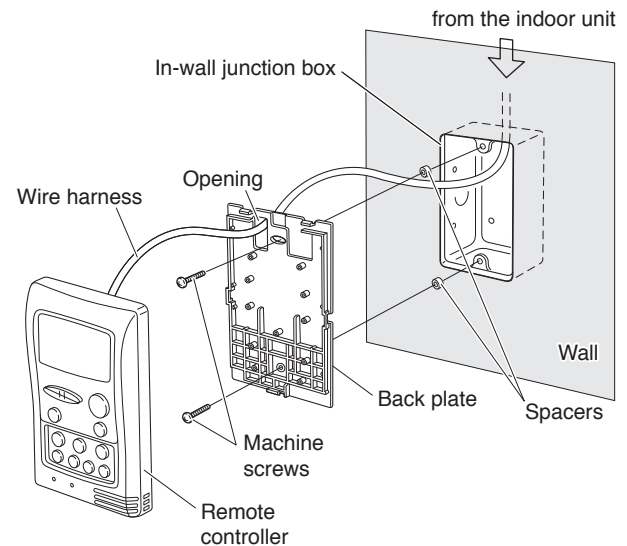

Fig. 3
- (2) Pass the wire harness through the junction box and conduit. (Fig. 3)
Use nippers or a similar tool to cut out the slots for the remote controller back plate screws. Insert the spacers and use the machine screws to install the remote controller back plate. (Fig. 3)